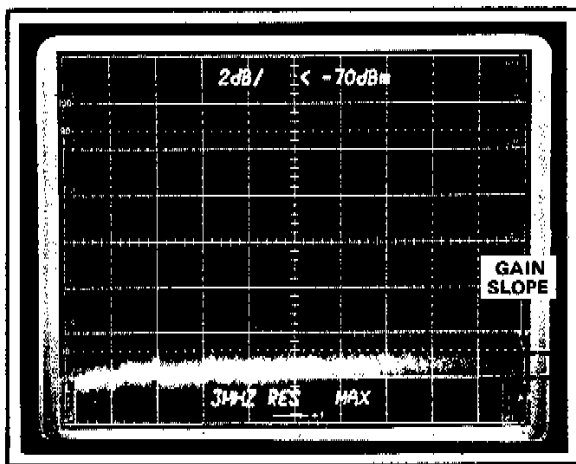

Fig. 3-3. Average noise level or gain increases as the frequency approaches 1.8 GHz. Maximum slope is 4 dB at 1.8 GHz.
h. Adjust the **VARIABLE Gain** control to position the average noise level so the gain slope, over the 1.8 GHz span, can be observed (see Fig. 3-3). The gain can increase to 2 dB at 1700 MHz plus an additional 2 dB (for a total of 4 dB) at 1800 MHz maximum.